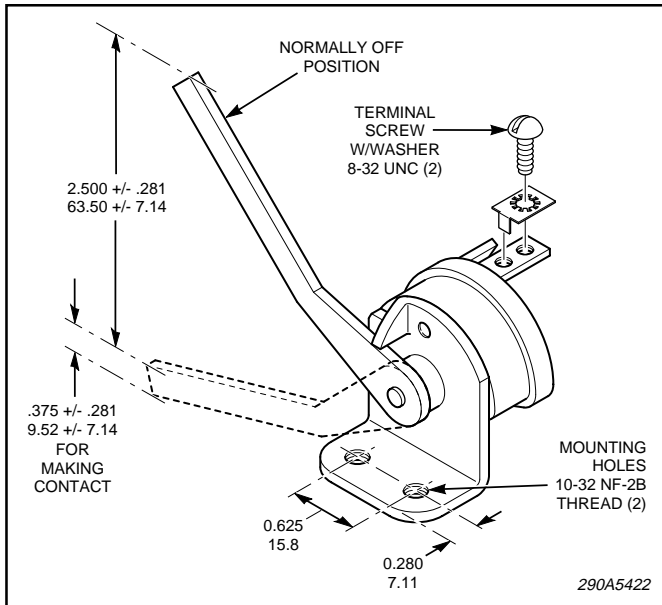

Figure 2.
5. See figure 2. Connect the wires to the #8-32 screw terminals on the switch.